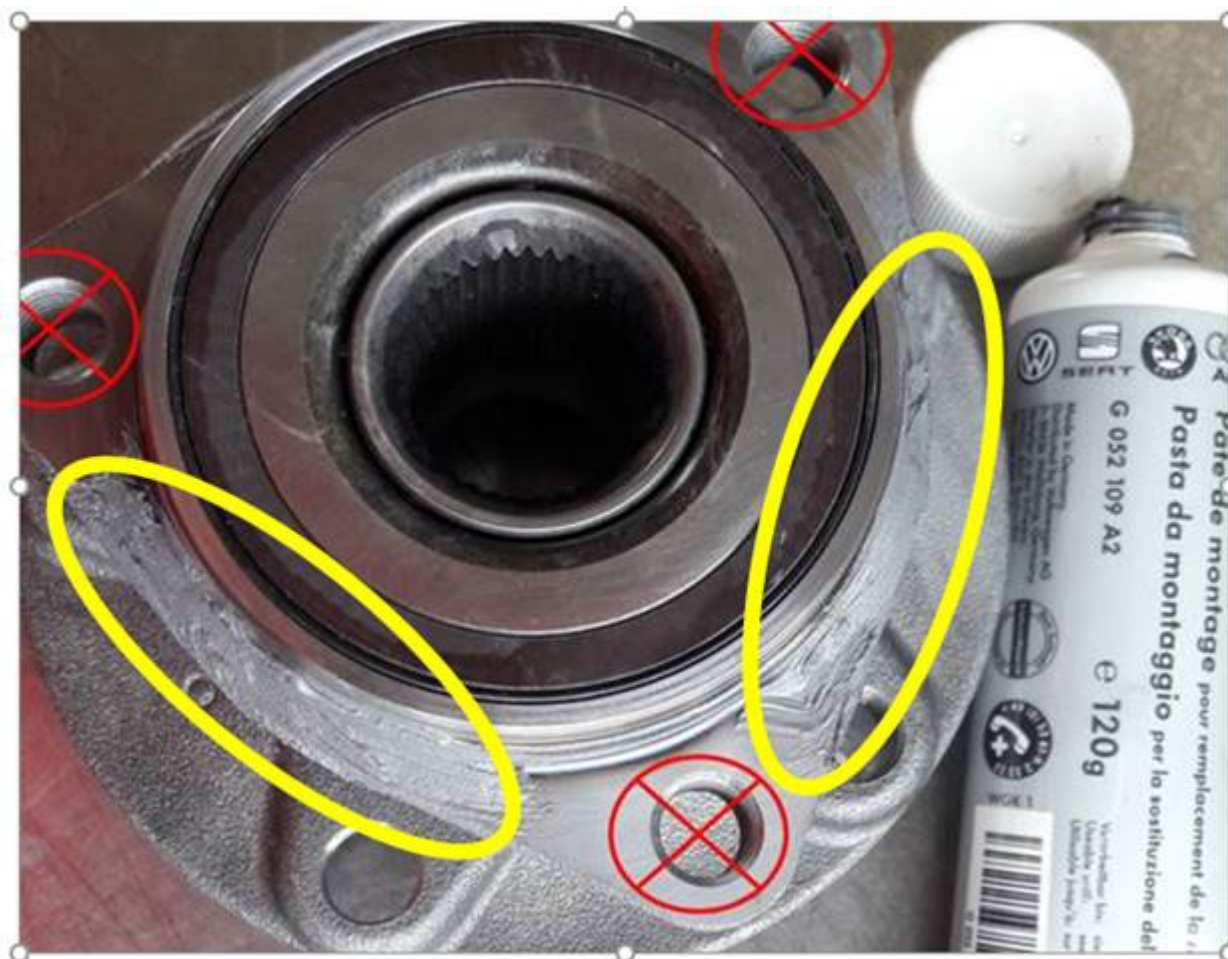

Figure 1: Wheel bearing housing paste application area, marked in yellow. Do not apply in treads, marked in red.
- Apply assembly paste G 052 109 A2 to the contact surface of the wheel bearing housing – yellow marked area (Figure 1).
Note: Do not apply assembly paste on the treads – red marked area (Figure 1).